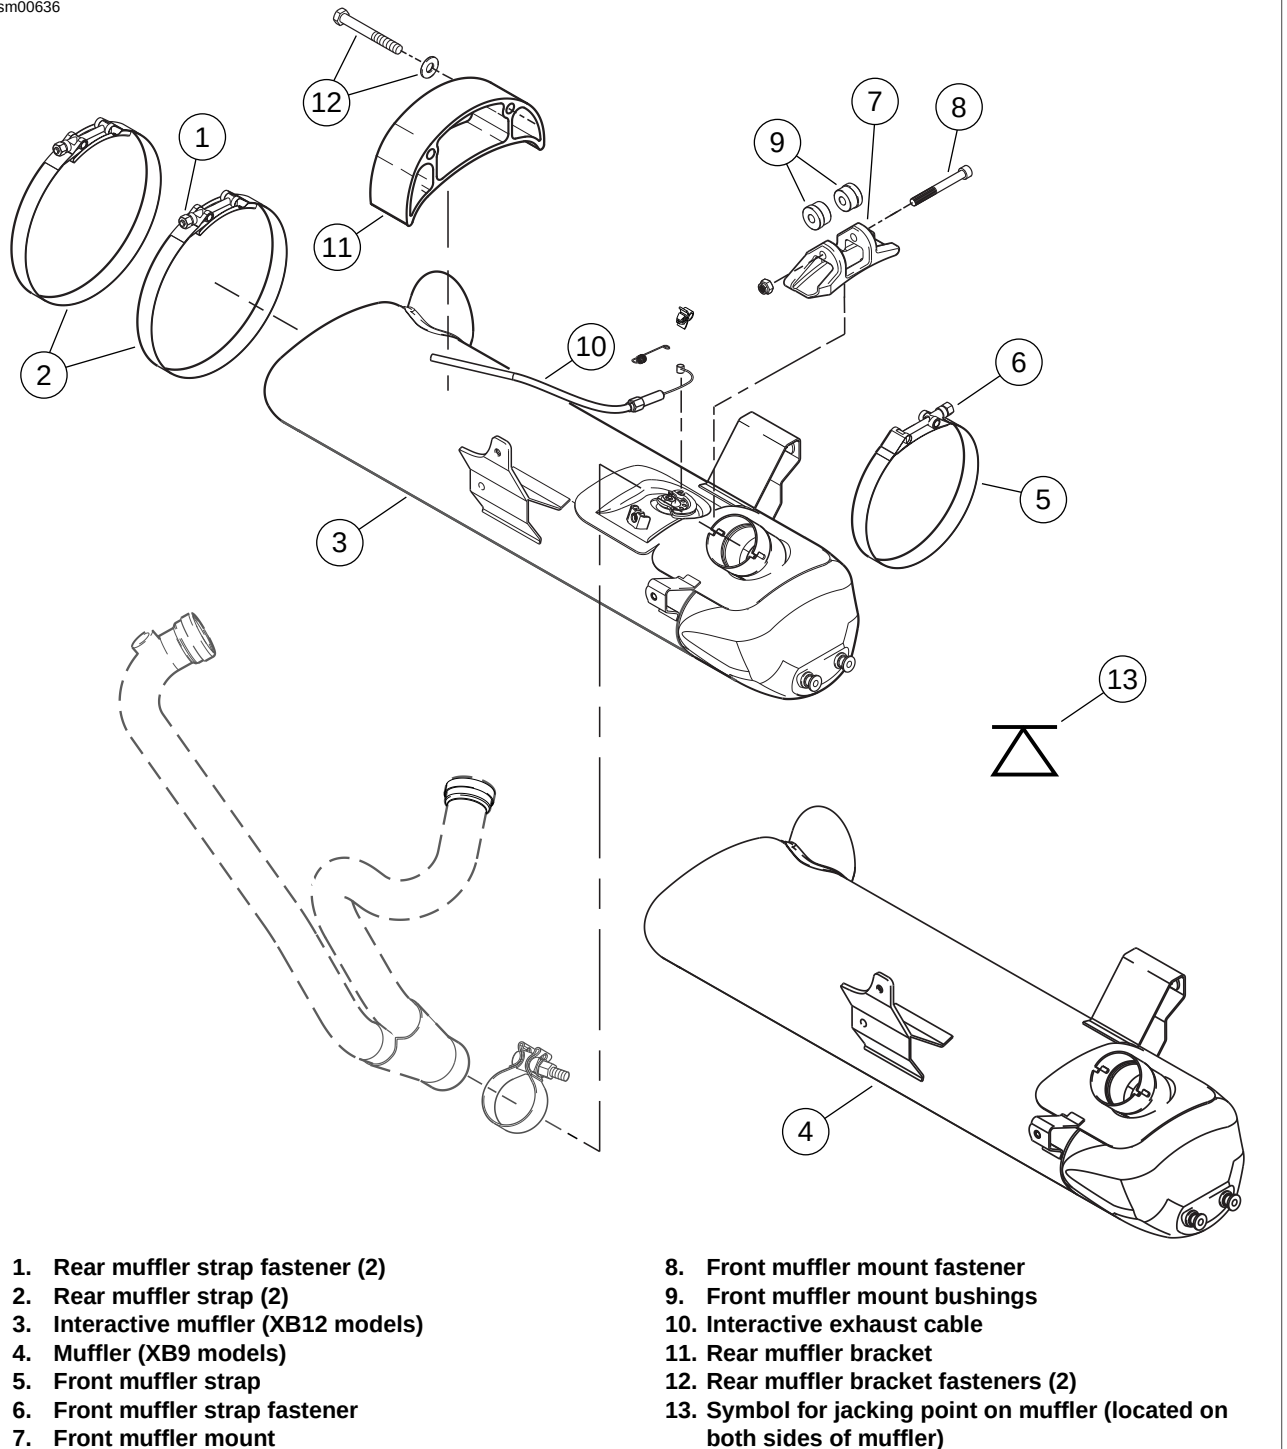
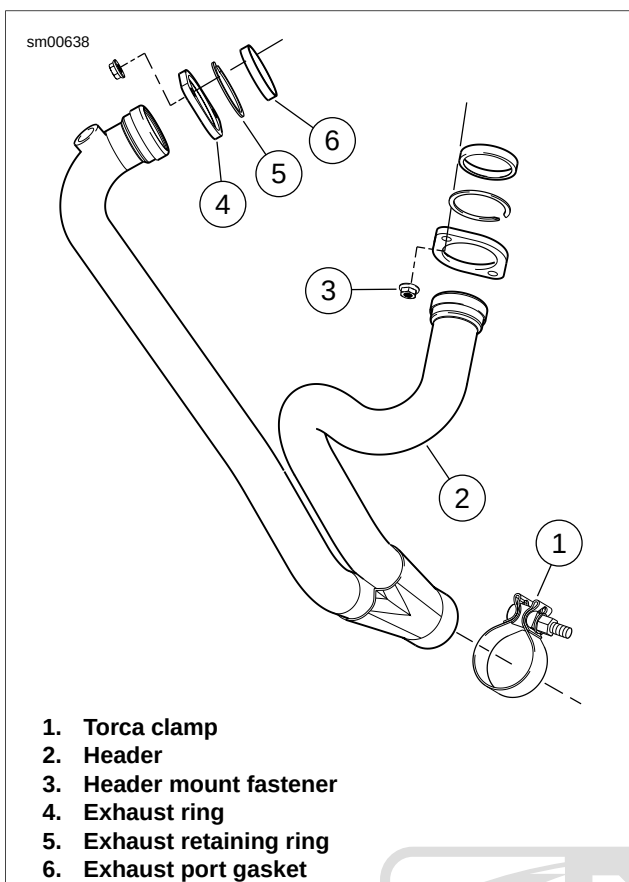

Figure 4-47. Muffler and Mounting System
Figure 4-48. Exhaust Header
4. See Figure 4-47. Loosen front muffler mount fastener (8) but do not remove.
- a. **Front:** Remove front muffler strap fastener (6).
- b. **Rear:** Alternately loosen rear muffler strap fasteners (1) and remove rear muffler straps (2).
6. See Figure 4-48. Loosen Torca clamp (1) and lower muffler.
2. See Figure 4-47. Remove front muffler mount fastener (8).
3. Remove front muffler strap (5) from front muffler mount (7).
4. Remove front muffler mount bushings (9) by punching out with suitable tool.
4. See Figure 4-47. Remove rear muffler bracket fasteners (12).
5. Slide oil line from rear muffler bracket and remove rear muffler bracket (11).
3. See Figure 4-48. Remove exhaust header (2) by removing header mounting fasteners (3).
4. Remove exhaust ring (4), exhaust retaining ring (5) and exhaust port gasket (6).
- See Figure 4-48. Install exhaust ring (4), exhaust retaining ring (5) and **new** exhaust port gasket (6).
- Install exhaust header (2). Tighten mounting fasteners (3) to 72-96 **in-lbs** (8-11 Nm).
1. See Figure 4-47. Slide rear muffler bracket (11) over oil line.
2. Apply LOCTITE 271 (red) and install rear muffler bracket fasteners (12) and tighten to 32-36 ft-lbs (43-49 Nm).
1. See Figure 4-47. Install front muffler mount bushings (9).
3. See Figure 4-47. Loosely install **new** front and rear muffler straps (2, 5).
5. See Figure 4-48. Tighten the Torca clamp (1) to 45-50 ft-lbs (61-68 Nm).